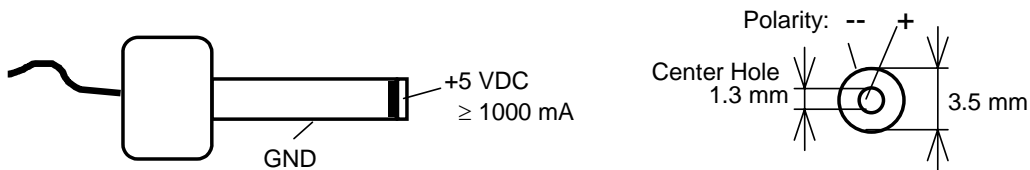

Figure 4: Power Connector
- Using the included 5VDC power adapter, connect the power socket on the board (X6) to a power supply (*refer to Figure 4 for the correct polarity*). The phyCORE module/Development Board combination requires a 5VDC@1.5A  $\pm 3\%$  regulated supply.